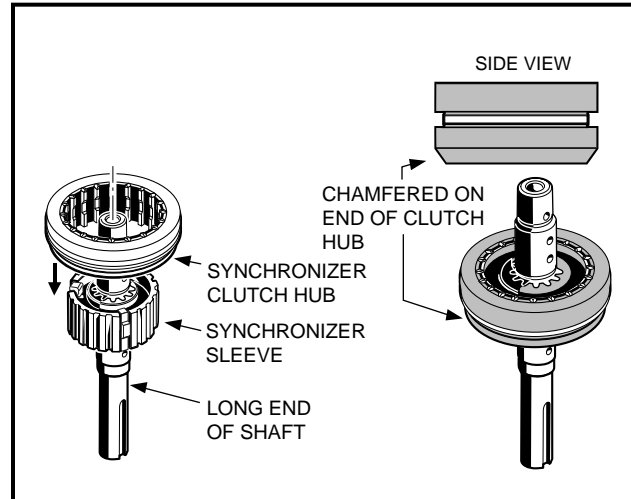

Figure 16-59 Synchronizer Clutch Hub
4. Install the synchronizer clutch hub (49) (**Figure 16-42, Page 16-18**) onto the synchronizer sleeve. Make sure the chamfered end of the hub is oriented toward the long end of the input shaft as shown (**Figure 16-59, Page 16-25**).